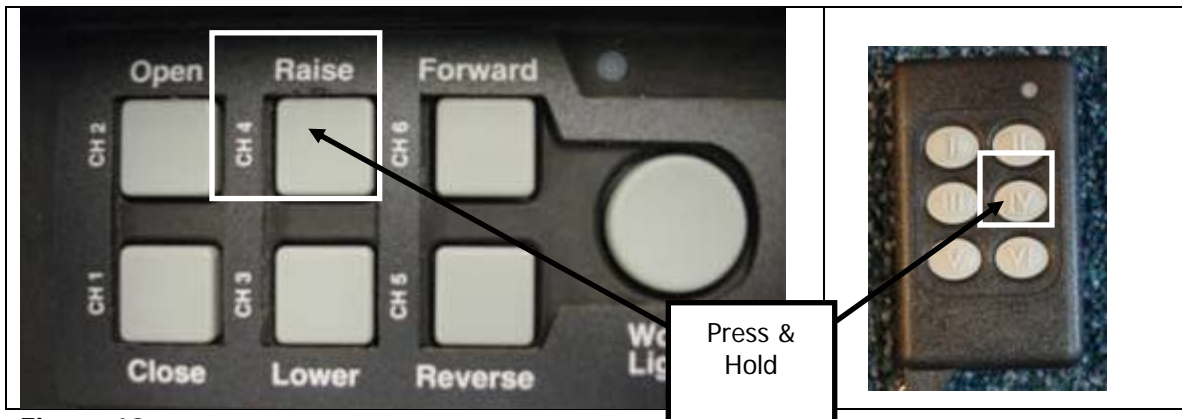

Figure 10
- 2) Raise tower as high as possible to keep tarp from dragging on the load in the container. To raise tower press & hold button 4 on the control box or the key fob (see Fig. 10).
- 5) Carefully locate (see Fig. 10) & remove the blown fuse and replace it with a fuse that is the same size